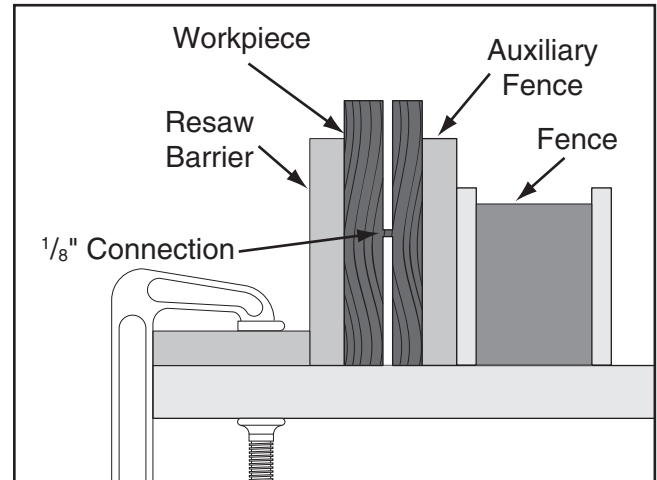

Figure 70. Ideal completed resaw cut.
7. Raise the blade approximately an inch, or close to half the height of the workpiece (**Figure 70**), whichever is less.
10. Repeat **Steps 7–9** until the blade is close to half of the height of the board to be resawn. The ideal completed resaw cut will leave an $\frac{1}{8}$ " connection when the resawing is complete as shown in **Figure 70**. Leaving an $\frac{1}{8}$ " connection will reduce the risk of kickback.